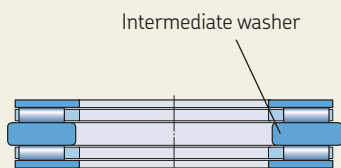

Fig. 6
The flange facilitates mounting and accurately centres the housing washer radially (fig. 6 and fig. 7).
- drawn cup needle roller bearings with a closed end or with open ends (fig. 6)